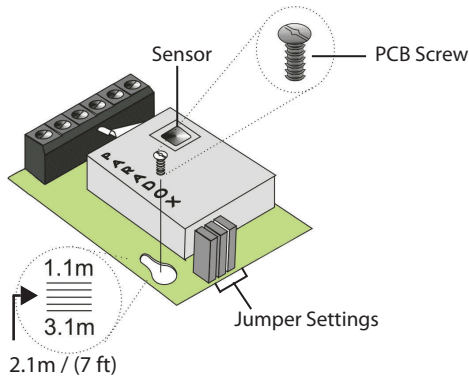

Figure 2
- 2) Loosen the PCB screw and remove the PCB (Figure 2 (3)).
- 4) Replace the PCB and verify that the height settings match the actual installation height (Figure 2).
Detector Settings (Figure 2)